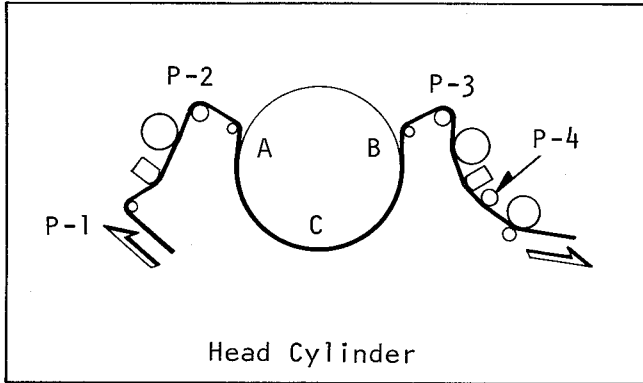

Fig.M79. Location of Posts
1. Watch the portions between Post (P2) and A as well as Post (P3) and B carefully, while playing back the cassette tape. (See Fig. M79).
2. If tape crease or slack is apparent at any portion, adjust the position of the inclined base. To adjust it, loosen screw (A) slightly, set the eccentric screwdriver to the hole (B) and move the base to eliminate creases.
1. When the scope display is as follows, adjust the height of P2 shown in the Fig. M79.
- When the scope display is as follows, adjust the height of P3 shown in the Fig. M79.